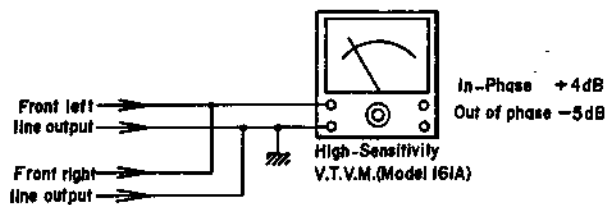

Fig. 25
- 2) Connect front left signal and front right signal line outputs in parallel and connect to the inputs of a high sensitivity V.T.V.M. (See fig. 25)